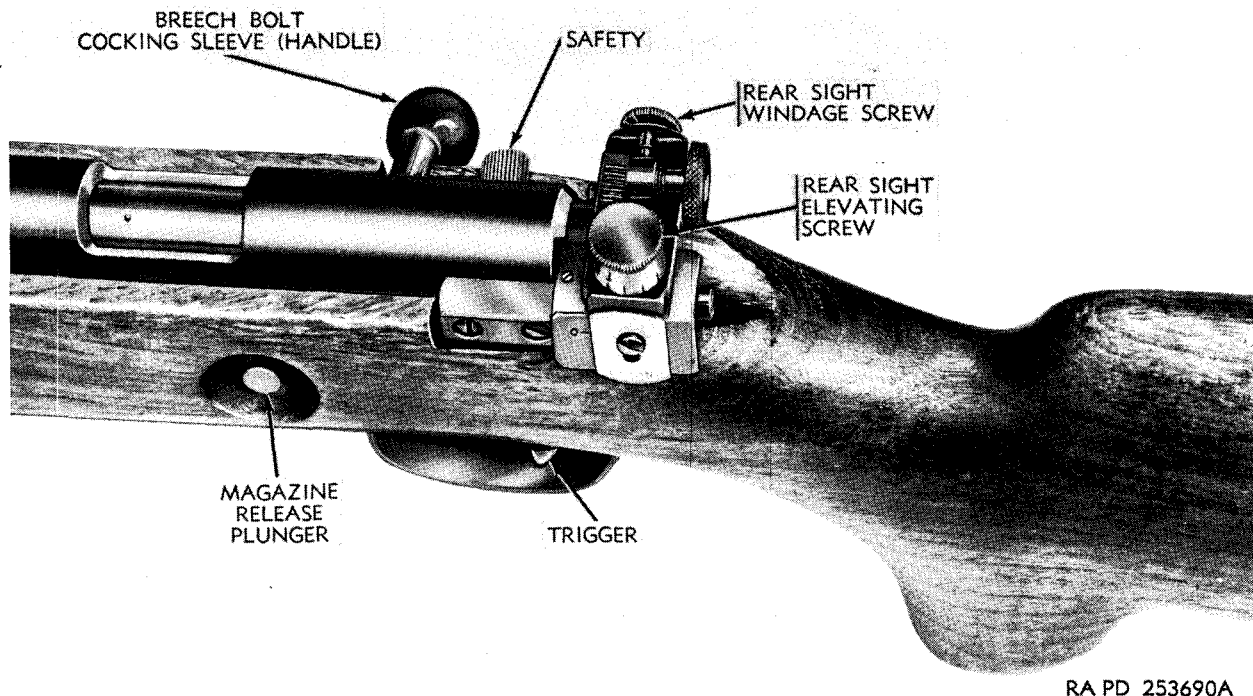

Figure 26. Controls (Winchester rifle M75T).
(fig. 26)
- (1) *Remove chambered cartridge.* To unload a fired or live cartridge, rotate the breech bolt cocking sleeve (handle) up and draw entirely to the rear.
- (2) *Remove magazine.* Press the magazine release plunger (fig. 26) "in" and pull out the magazine.
With the breech bolt cocked and locked forward against a chambered cartridge (par. 31a), push the safety (fig. 26) on the right side of the receiver rearward to place the rifle in the SAFE position or to front for FIRE position. When the safety is in the SAFE position, the trigger cannot be squeezed to fire the rifle and the breech bolt cocking sleeve (handle) is locked in the down position. When the safety is in the SAFE position, the word SAFE is exposed, and when shifted to the FIRE position, the word FIRE is exposed.